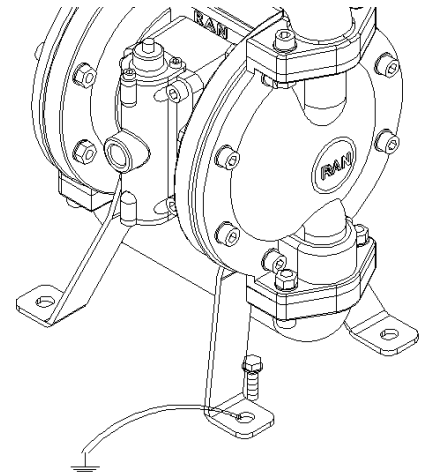

Figure 9- Pump grounding
5.6.1. For the pump: Use a conductor (for grounding) with a cross-section of at least 1.5 mm². Connect the conductor to the pump's leg as shown on Fig. 9, and the other end to the grounding line.